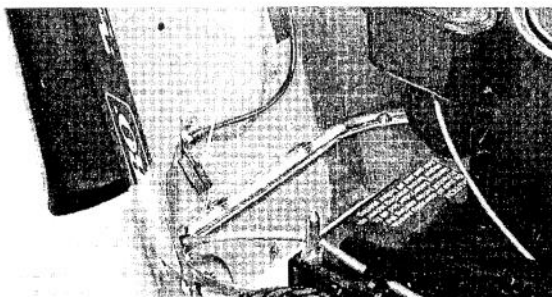

Figure 43
5. Check the interlock switch at front of the mower housing to be sure wires are not broken. Connectors must be making good contact. Also, assure seat switch connectors are together and wires are making contact (Fig. 43).